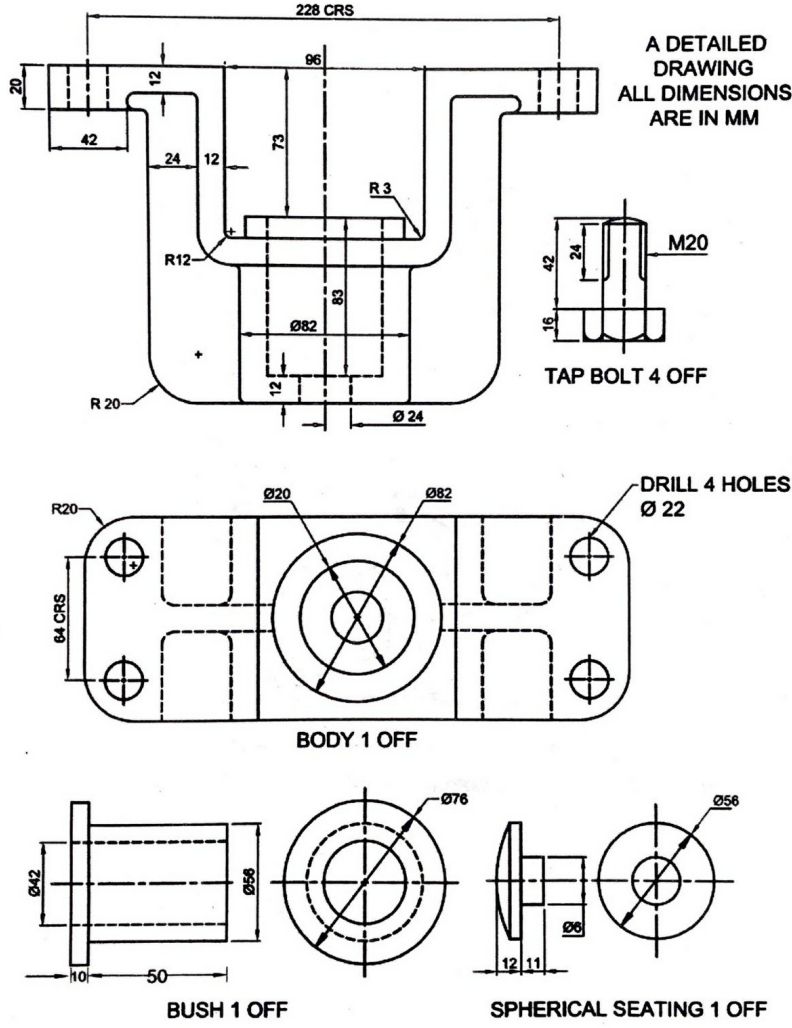

Figure-8
- (a) The detail drawing of footstep bearing are shown in the given figure-8. Draw the assembly drawing of given detail drawings with partlist.